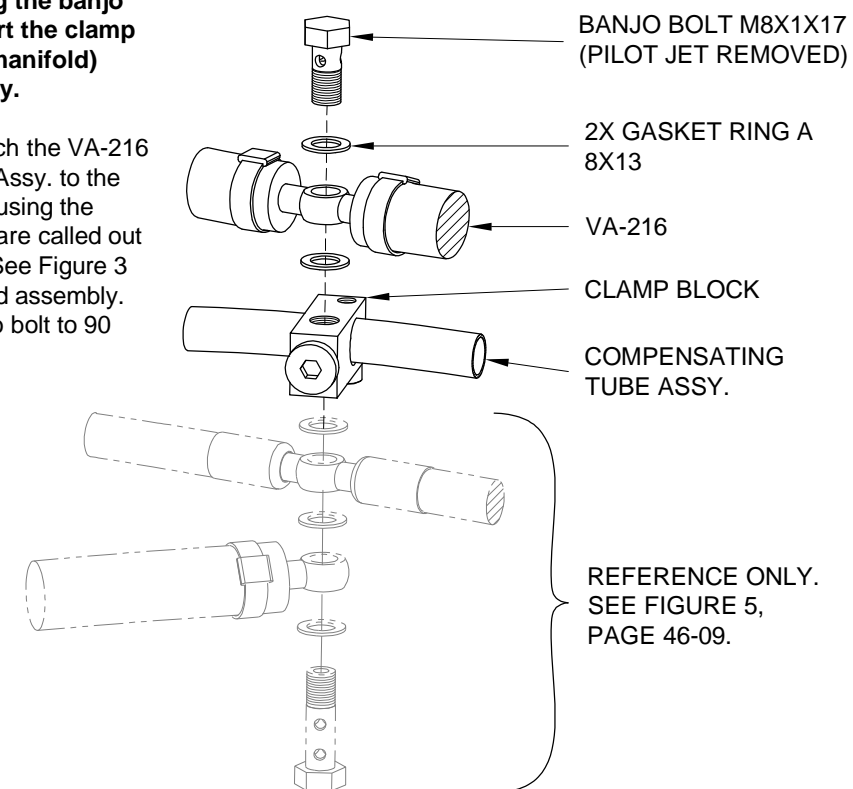
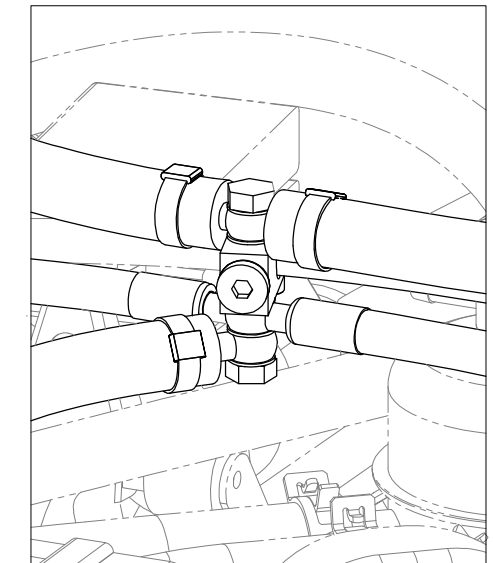

FIGURE 2: ATTACHING FUEL RETURN ASSY.
FIGURE 3: AS ASSEMBLED
Step 3: Attach the VA-216 Fuel Return Assy. to the clamp block using the Rotax hardware called out in Figure 2. See Figure 3 for completed assembly. Torque banjo bolt to 90 in-lbs.